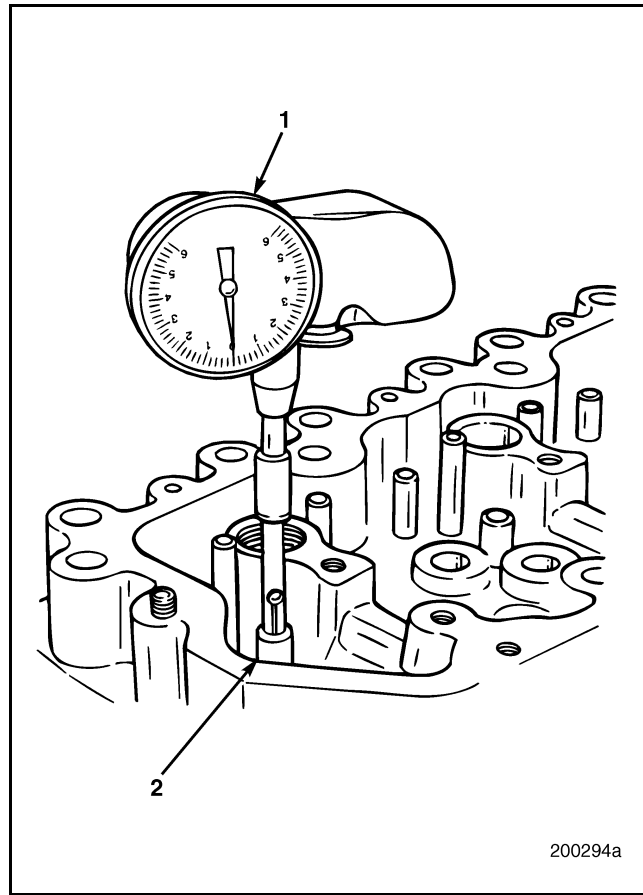

Figure 187 — Measuring Valve Guide Bore
1. Inspect the valve guides for wear, damage, cracks and looseness. Use a small bore gauge (1) to obtain an accurate valve guide bore (2) measurement. Refer to Figure 187.